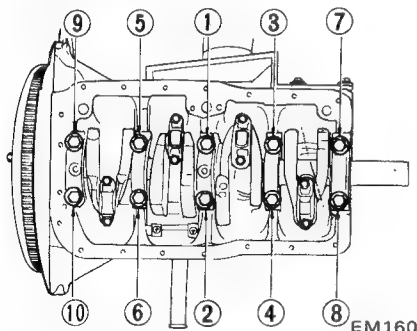

Fig. EM-86 Torque sequence of cap bolts
- d. Tighten bearing cap bolts gradually in separating two to three stages and outwardly from center bearing in the sequence as shown in Figure EM-86.